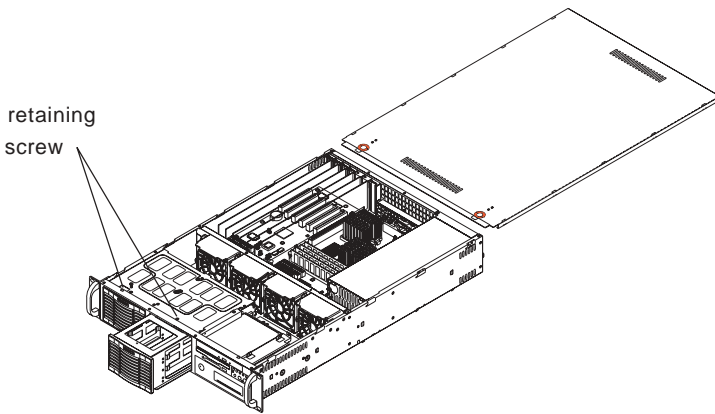

Figure 6-5. Removing IDE Drives
The IDE drive bays are located in the front of the chassis, making it easily accessible for installation and removal. An IDE drive is not a hot-swap unit, meaning that it can not be installed and removed while the system is running. To remove an IDE drive, first switch the electrical power to the unit "off", then remove the IDE drive bay as in the reverse of (1), above (see Figure 6-5).